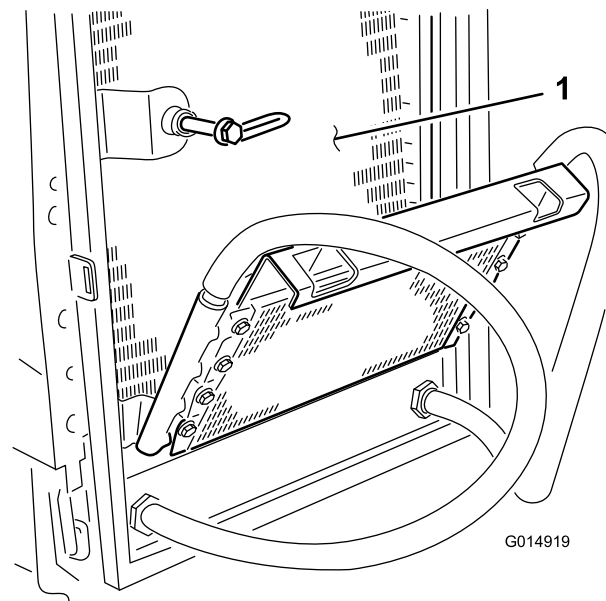

Figure 44
8. Thoroughly clean both sides of the oil cooler. After the radiator and oil coolers are thoroughly cleaned, clean out any debris that may have collected on other parts of the machine (Figure 44) with compressed air.